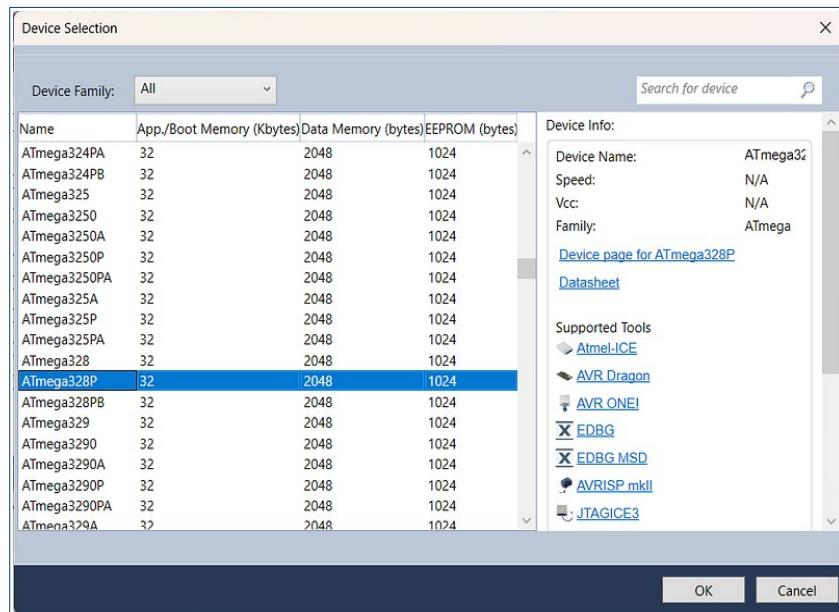

Figure 3: Device Selection (ATmega328P)
1.2 Select **ATmega328P** as the target device (see **Figure 3**) and click the “OK” button.